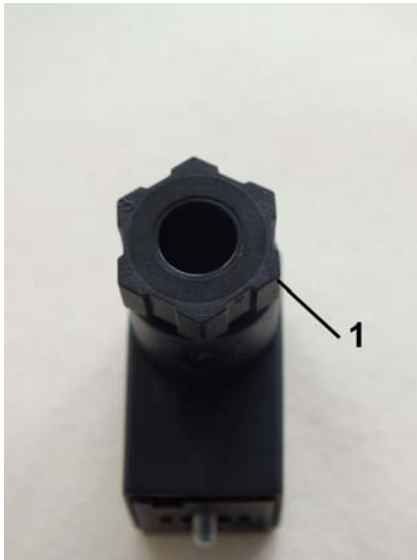

Fig. 23: Loosen the screw connection
4. ➤ Unscrew the screw connection (Fig. 23/1) by turning the connection to the left
8. ➤ Retighten the screw connection (Fig. 23/1) by turning it to the right until tight